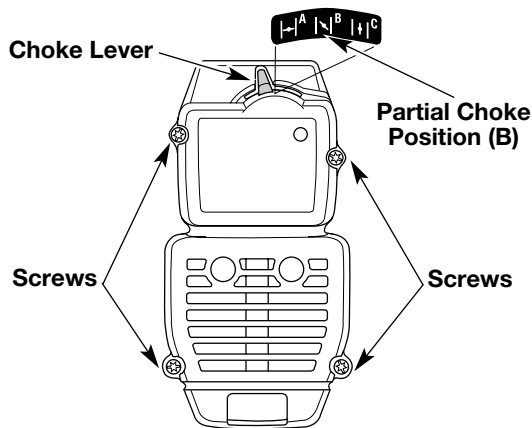

Fig. 28
1. Place the choke lever in the **PARTIAL** choke position (B).
NOTE: The choke lever must be in the **PARTIAL** choke position (B) (Fig. 28) to remove the air filter/muffler cover.
2. Remove the four (4) screws securing the air filter/muffler cover (Fig. 28). Use a flat blade or # T20 Torx bit screwdriver.